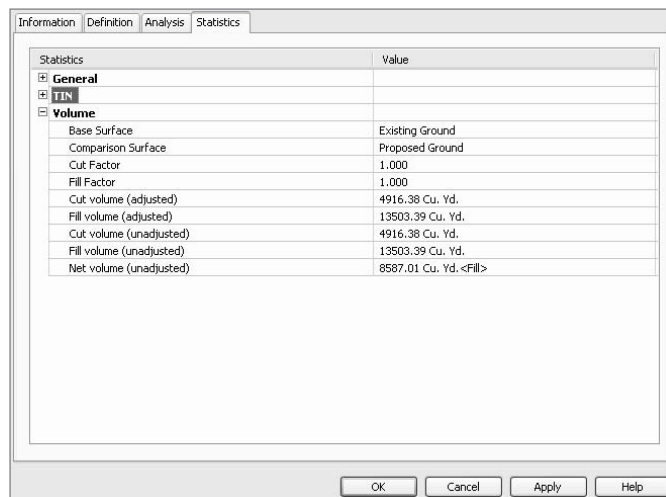

Figure 7.27
12. Change to the Statistics tab and expand the Volume section as shown in Figure 7.27. Note that the Net Volume value is approximately 8,600 yards, exactly the same as with the other method.